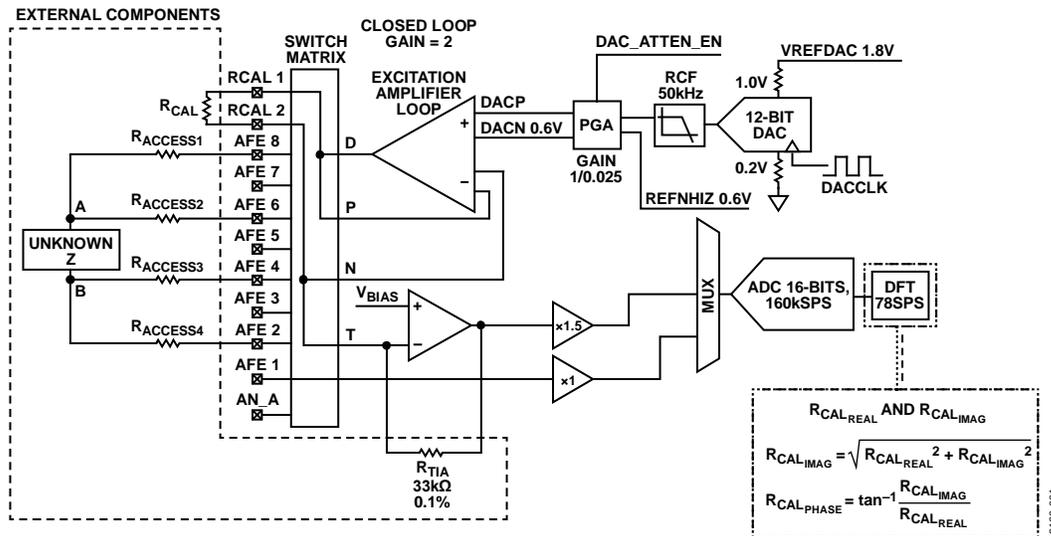

Figure 2. 4-Wire Topology for ADuCM350—Measuring RCAL
1. Measure the impedance of a known precision resistor, RCAL, as shown in Figure 2. An excitation voltage is applied at RCAL 1 with associated D and P switches closed in the switch matrix. The resultant excitation current is measured through RCAL 2, with associated T and N switches closed in the switch matrix. This current is converted to a voltage using the TIA amplifier, where RTIA is optimized for the maximum current seen by the ADC, and is converted to a voltage using the ADC. A 2048 point Hann sample is performed on the data to give real and imaginary components of the impedance.
When the current is being forced, the access wires to Z also lead to a drop in voltage, which causes inaccuracies in a measurement. To remove this loss from the actual measurement of Z, a differential pair of sense lines are connected to Z at the points labeled A and B in Figure 2.